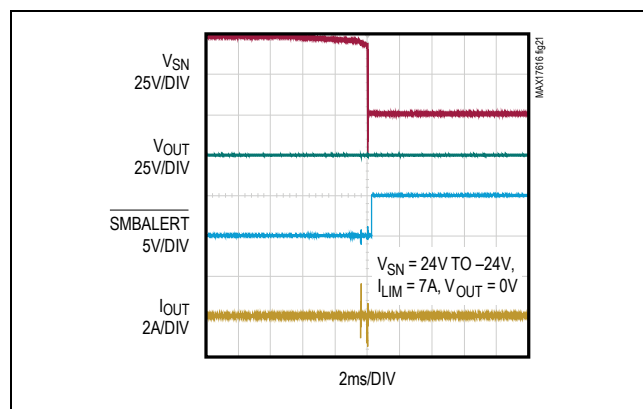
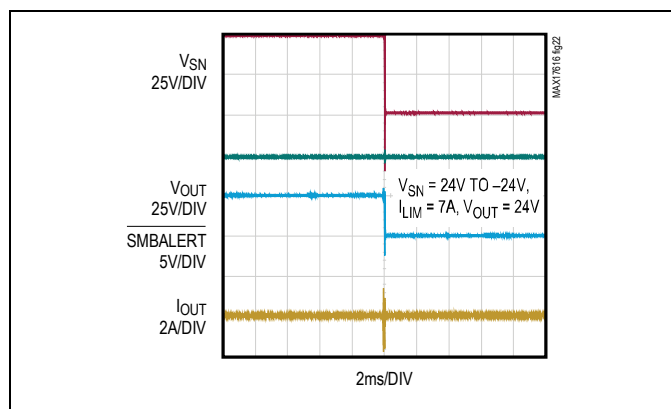

Figure 21. Input Reverse-Polarity Protection at  $V_{OUT} = 0V$  and  $V_{SN} = -24V$
Figure 22. Input Reverse-Polarity Protection at  $V_{OUT} = +24V$  and  $V_{SN} = -24V$
The magnitude of reverse-polarity voltage protection is dependent on the operating load bus voltage ( $V_{OUT}$ ) and the voltage-blocking capability of the external nFET. For example, for protection down to a -55V input voltage with  $V_{OUT} = 30V$ , an external nFET rated for 85V is needed. The devices provide a gate drive (GN) of 6.5V (typ). Figure 21 shows the reverse-polarity protection of MAX17616 with  $V_{OUT} = 0V$  and  $V_{SN} = -24V$ . Figure 22 shows the reverse-polarity protection of MAX17616 with  $V_{OUT} = +24V$  and  $V_{SN} = -24V$ .